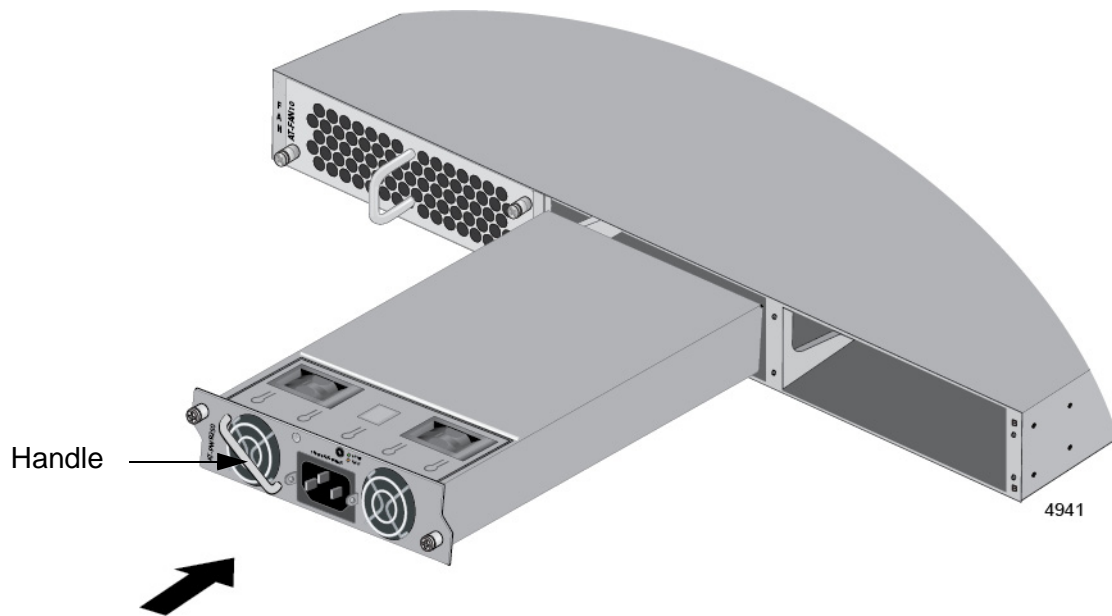

Figure 19. Installing a Power Supply
- Slide the new power supply into slot A or B in the back panel of the switch. Refer to Figure 19 on page 65.
- The handle on the power supply should be on the left as you install the module in the switch. Refer to Figure 19 on page 65.
- ❑ The power supply unit is field-replaceable and hot-swappable. Refer to Figure 19.